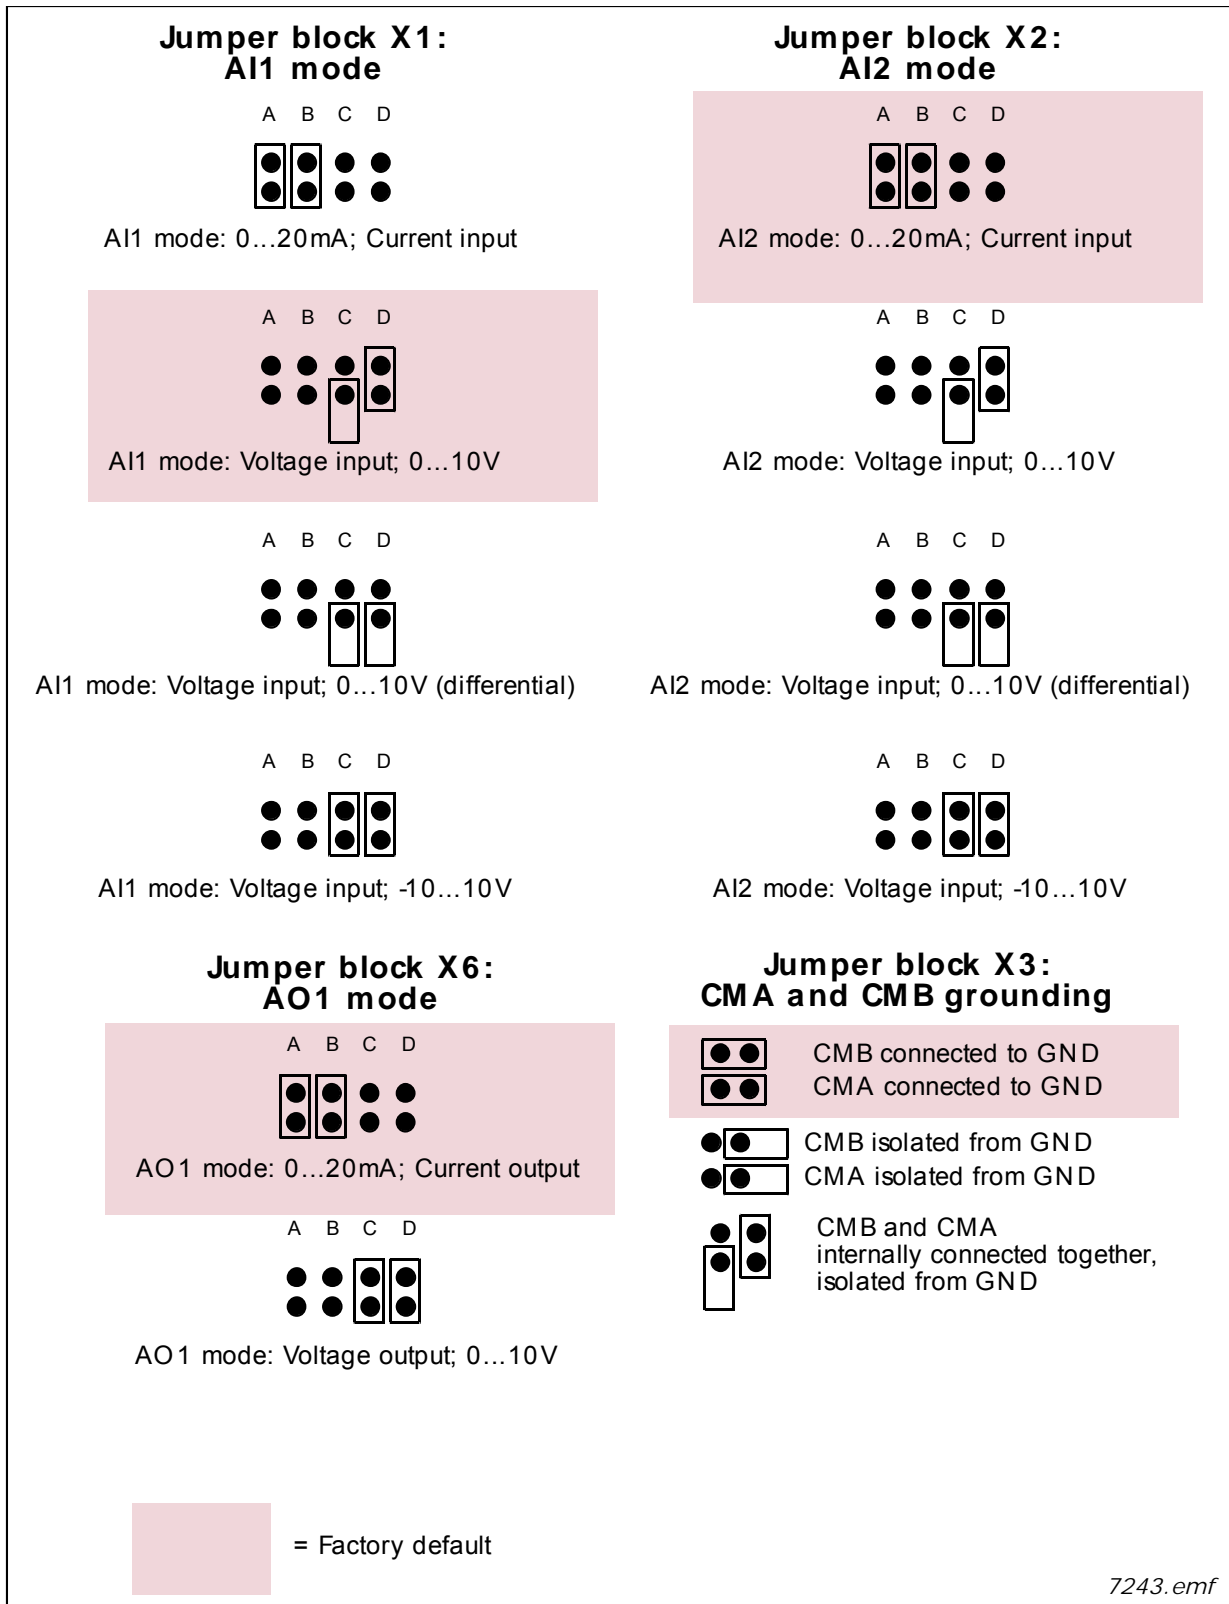

Figure 12. Jumper block selection on OPTA1
- Jumpers: 4; X1, X2, X3 and X6 (See Figure 12)